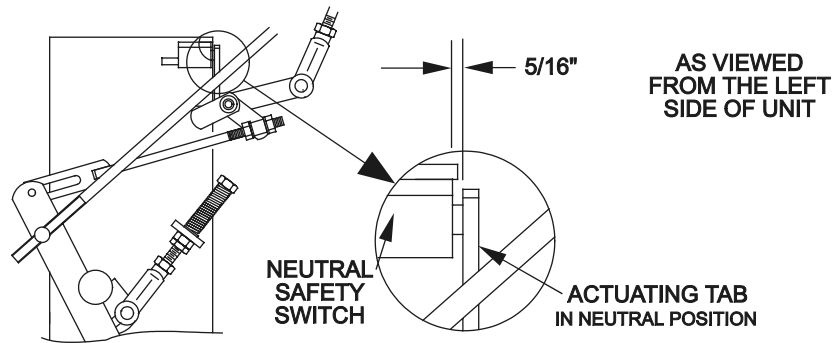

FIGURE 15
3. Pull the speed control lever back to neutral. Check that the neutral safety switch actuating tab has depressed the plunger of the switch so that there is about 5/16" (.79 cm) between the tab and the switch (See Figure 15). If necessary, move the switch fore and aft.